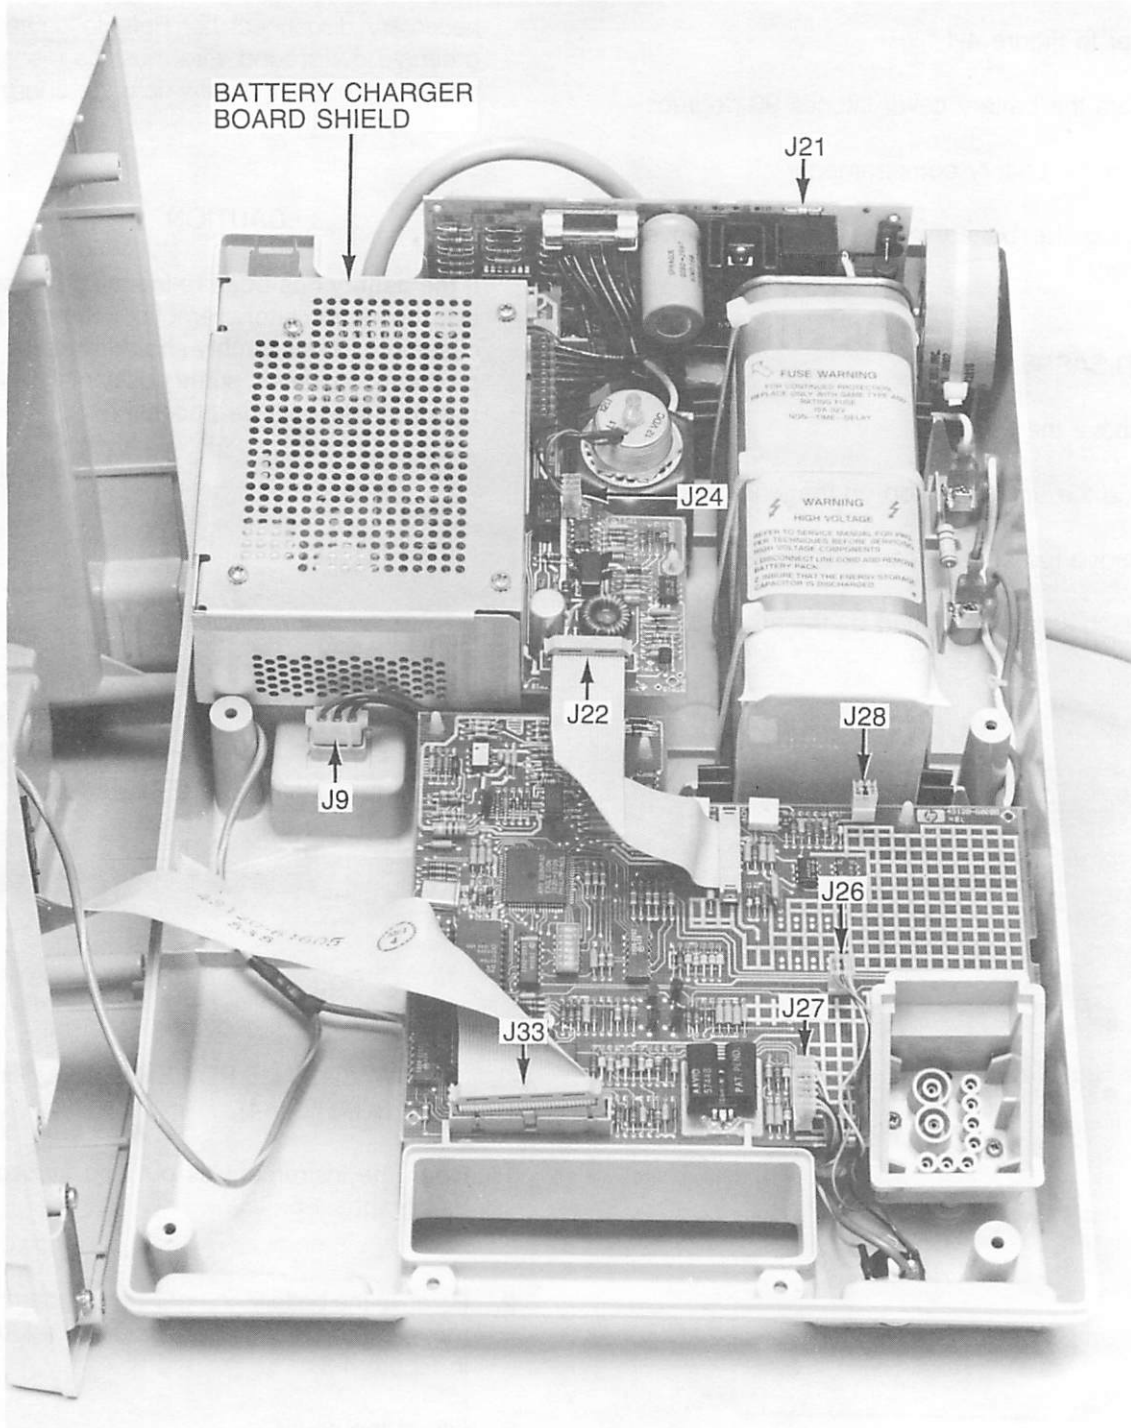

Figure 4-3. Circuit Board Shield Removal.
7. For many procedures, the top and bottom sections must be disconnected from each other. If this is necessary, disconnect J22. Refer to Figure 4-3. The green/yellow ground wire must be disconnected from the grounding screw near the energy switch in the top section.
2. Remove the battery charger circuit board shield by removing the four screws indicated by the arrows in Figure 4-3.
4. Disconnect J9, J21, J22, and J24 (see Figure 4-3.).
5. Unscrew the four aluminum spacers indicated by the arrows in Figure 4-3.
2. Refer to Figure 4-3. Disconnect J21. To remove the board, grasp the upper corners and lift. The board is a rather tight fit and it may be difficult to get it loose.
1. Refer to Figure 4-3. Disconnect J22, J26, J27, and J28.